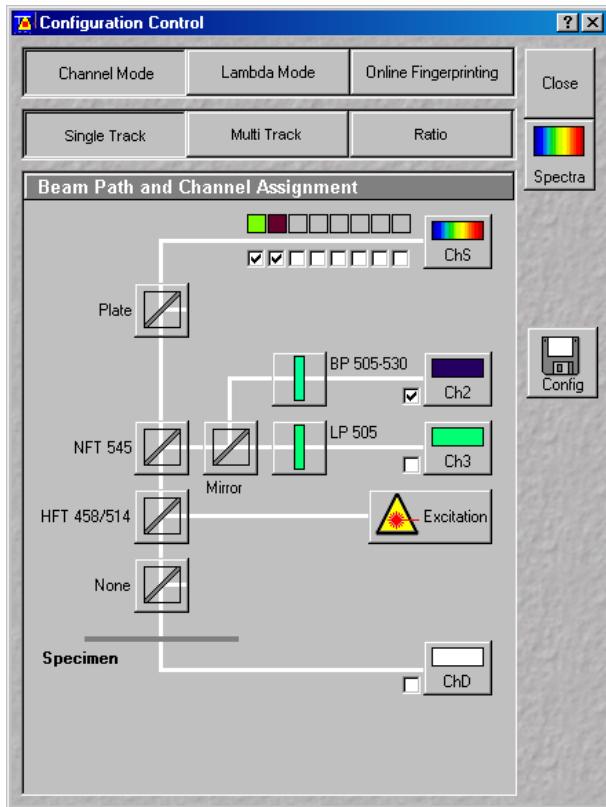

Fig. 12 Configuration Control window for Single Track
The **Configuration Control** window appears (Fig. 12).
- Select **Channel Mode** if necessary (Fig. 12).
- Click on the **Single Track** button in the **Configuration Control** window (Fig. 12).